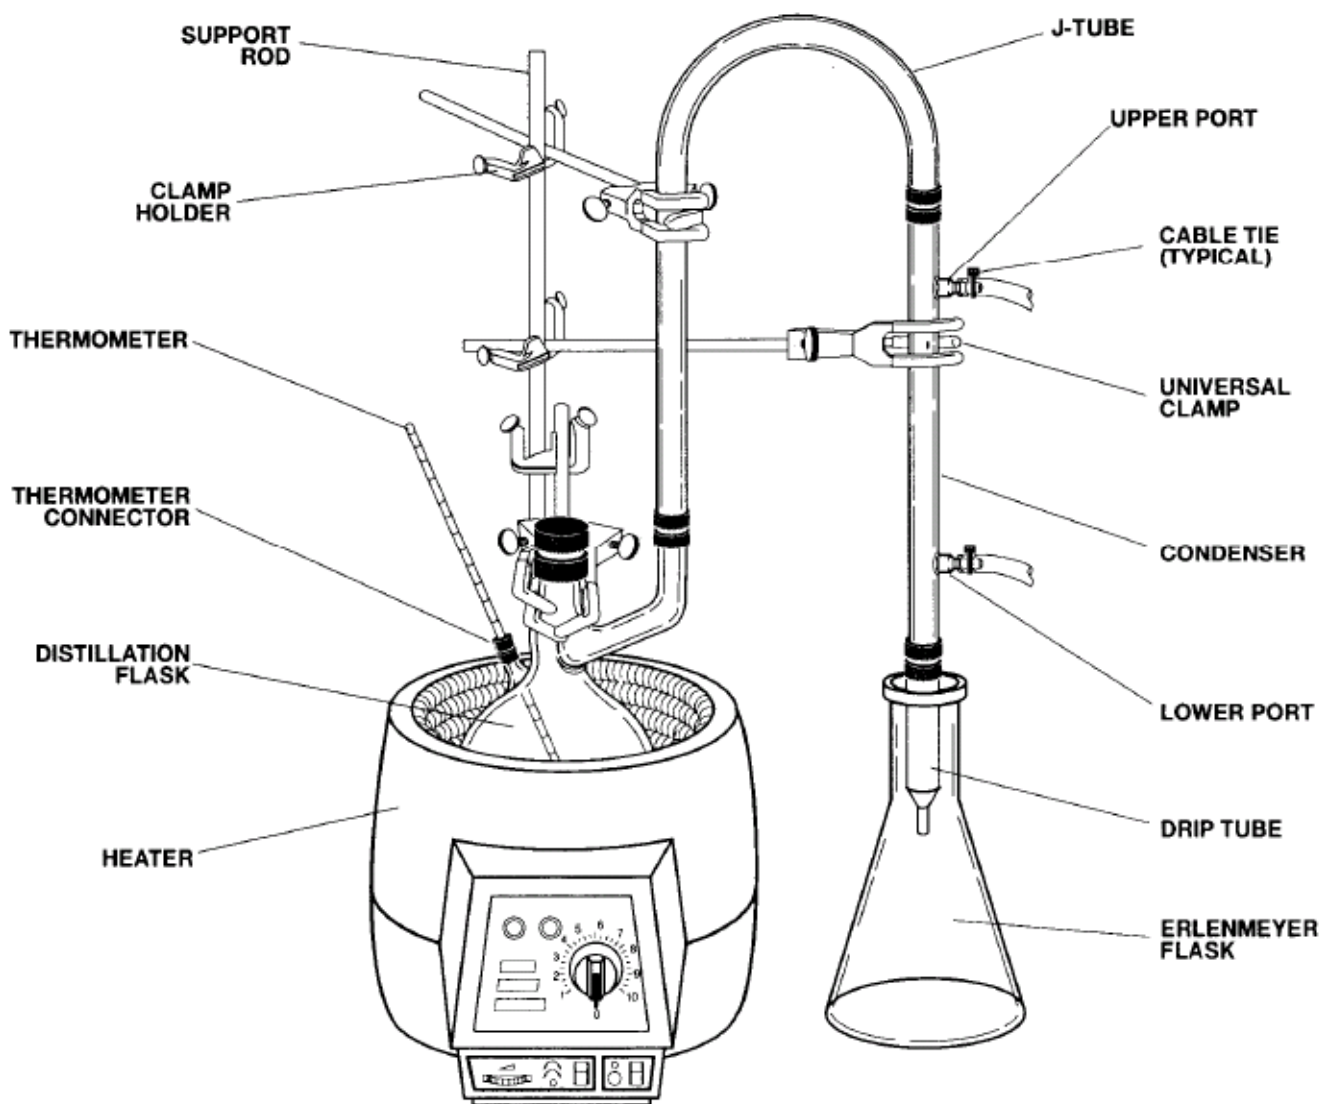

Figure 2 General Purpose Distillation Apparatus Assembly
3. Assemble the general purpose glassware as shown in Figure 2.